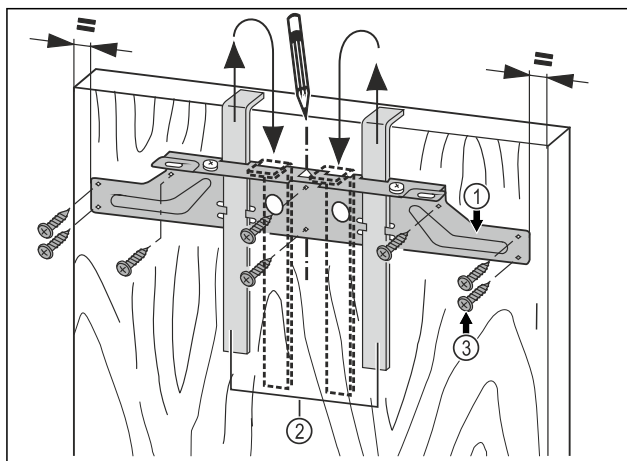

Fig. 20
- ▶ Hang the fastening bar Fig. 20 (1) with the mounting aids on the inside of the unit door Fig. 20 (2).
- ▶ Align the fastening bar Fig. 20 (1) in the centre of the door.
- ▶ Tighten the mounting bar Fig. 20 (1) with at least 6 screws Fig. 20 (3).
- ▶ Screw the mounting bar Fig. 20 (1) to the edge with 4 screws Fig. 20 (3).
- ▶ Pull the assembly devices Fig. 20 (2) upwards and push them, at an angle, into the receiving openings.